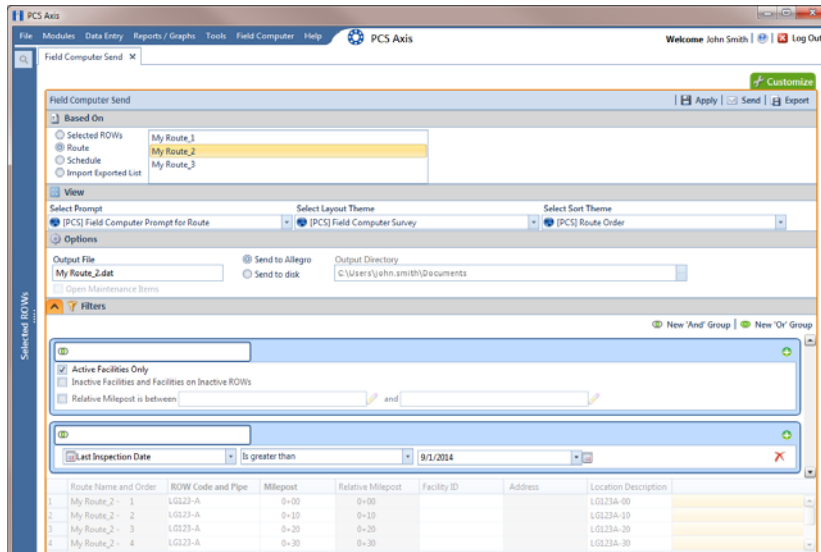

Figure 13-9. New 'And' Filter Group
- a** Click  **New 'And' Group** to open the filter properties group box. (Figure 13-9).